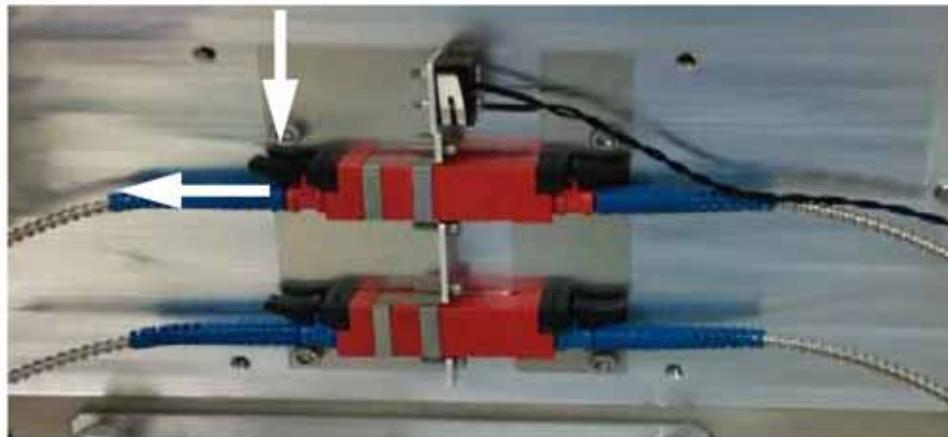

Figure 5.10-5. Removing Fiber
5. Press down on the black release clip, and gently pull the fiber out of the housing shown in Figure 5.10-5. The cap should